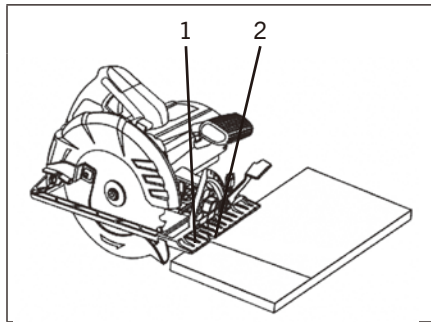

FIG. 10
NOTE: To align the saw blade with the cutting mark, use the guide marks on the front of the sole plate (Fig. 10). Use the 0° cutting mark (1) for right angle cuts. Use only the 45° mark (2) for 45° cuts. The 45° mark will allow for the extra material needed for the angle cut. Always make a test cut on a scrap workpiece before cutting the new material.